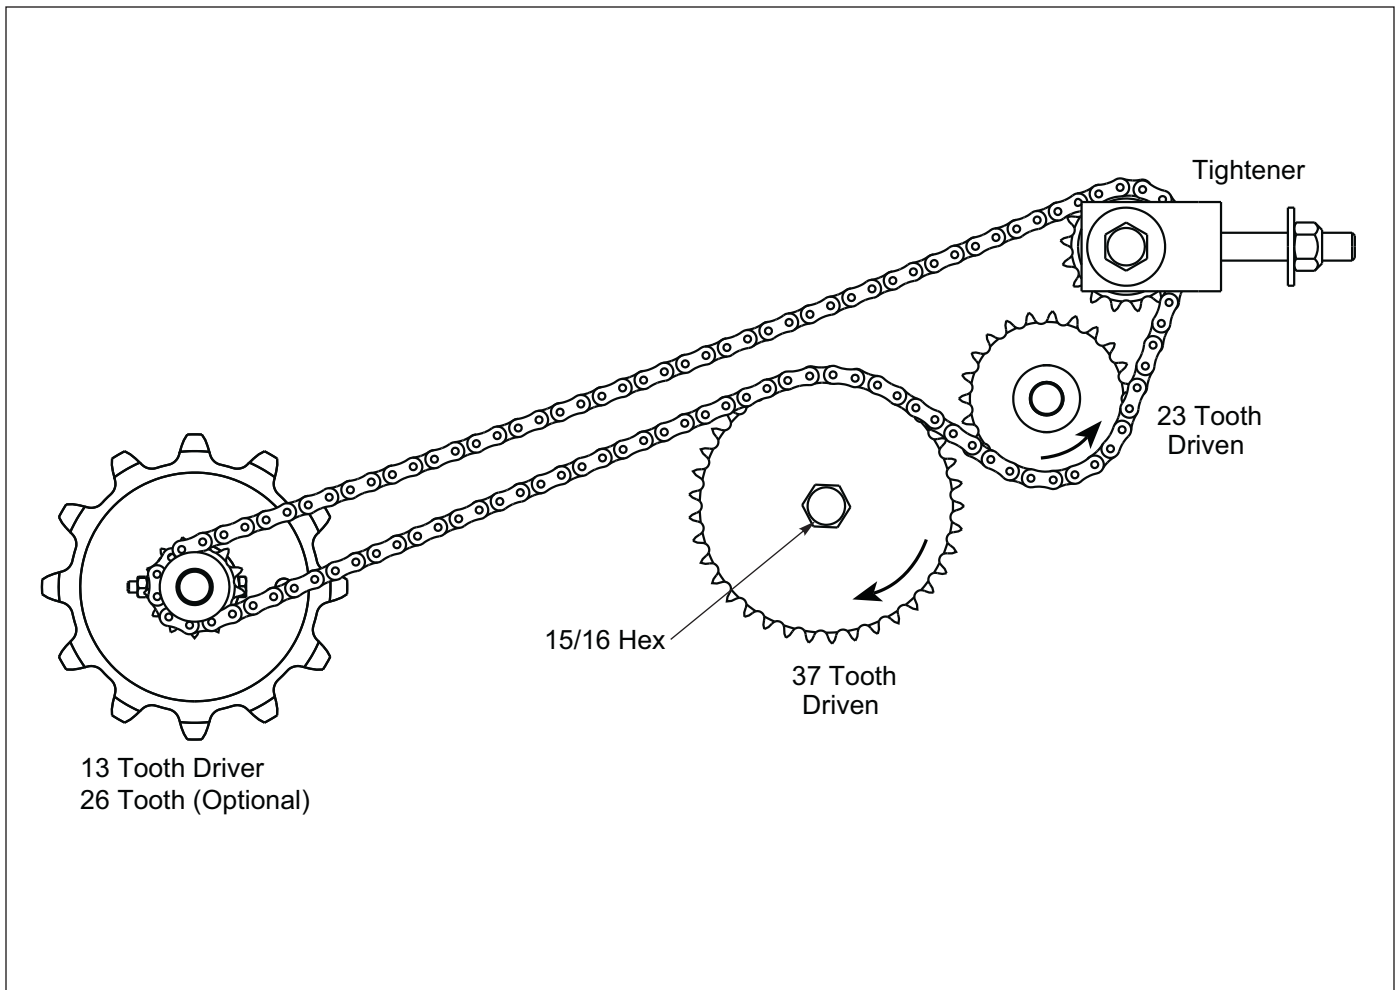

Figure 3-13: Transmission Drive
- 5. Turn 15/16 Hex on Transmission Shaft Clockwise(CW). See Figure 3-13.**